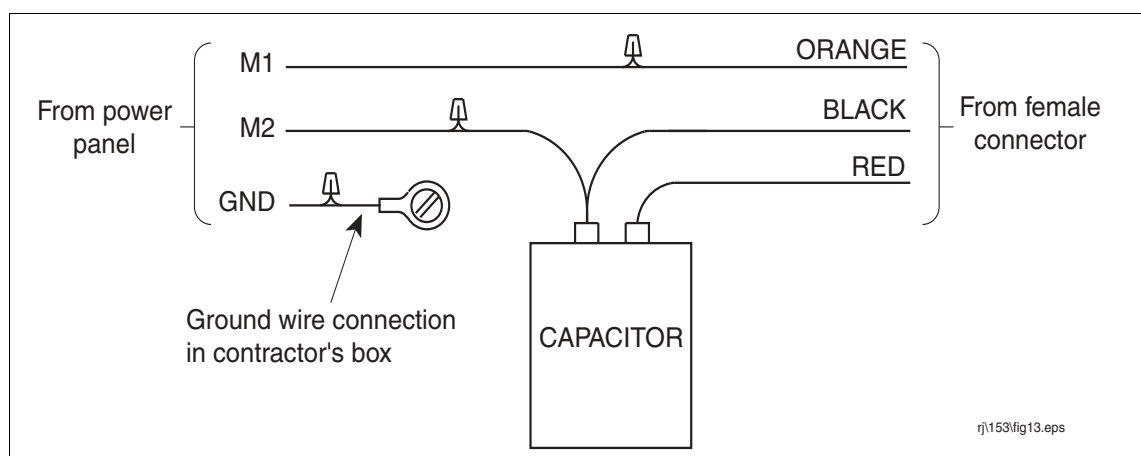

Figure 13. Capacitor wiring schematic
15. Using supplied wire nuts, attach like colored pump pigtail wires to like colored electrical connector wires as shown in Figure 13.